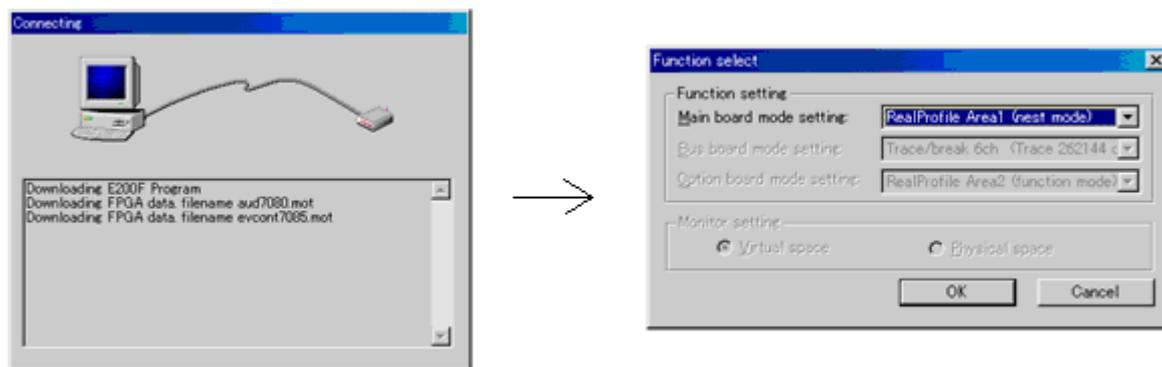

Figure 1 Loading of FPGA Data Completed
2. Start up the HEW and check that loading of FPGA data is complete. When the [Function select] window appears after the [Connecting] window (see figure 1), loading of FPGA data in the EV-chip unit is complete.